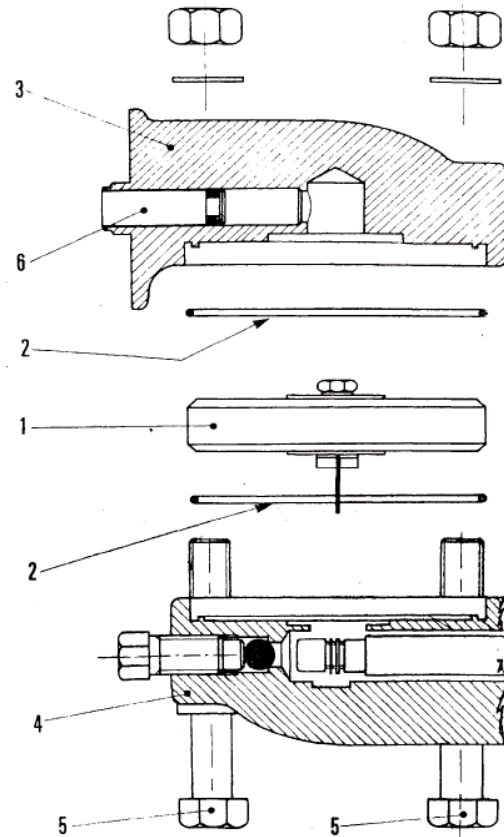

Fig. 2 - Primary measuring element
- THE PRIMARY MEASURING ELEMENT (see fig. 2) formed by the diaphragm (1), which is housed and blocked between the two sides (3) and (4)